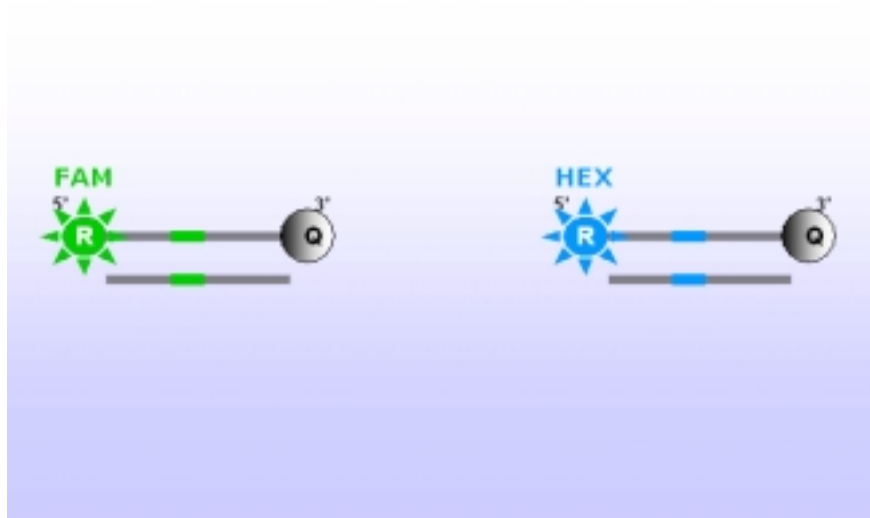

Fig. 1
The kit takes advantage of an Oligo Mix containing a Chlamydia pneumonia's specific probes linked at its 5'-end to a FAM molecule (6-carboxyfluorescein). In addition to this, the Oligo Mix contains internal control (IC) specific probes, linked at its 5'-end to a HEX molecule (hexa-chloro-fluoresceine). The two probes have at their 3'-ends a quencher called BHQ-1 (fig.1). If excited, the integral probe does not emit fluorescence, because the closeness of the quencher to the reporter prevents this last from emitting fluorescence (quenching effect).